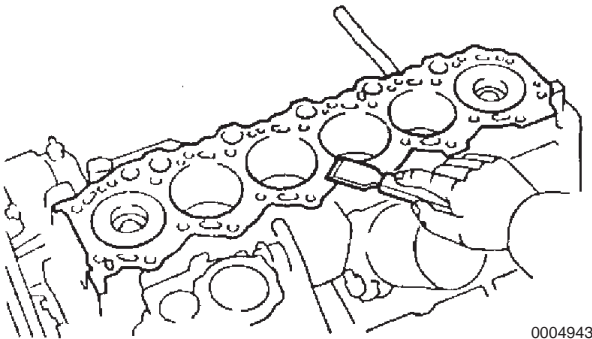

Figure 5-18
2. Remove all gasket materials from the top deck surface of cylinder block (**Figure 5-18**). **NOTICE:** AVOID damaging the cylinder block deck surface during cleaning.